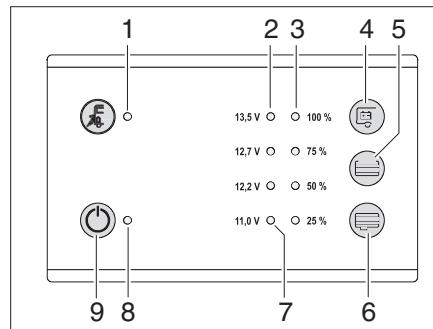

Fig. 78 Panel LT 100
The level of the water tank can be read by using the sensor touchpad (Fig. 78,4).
- Touch sensor touchpad (Fig. 78,5): The level of the water tank is indicated in four levels by means of the LEDs (Fig. 78,3) (25% to 100%).
The level of the waste water tank can be read by using the sensor touchpad (Fig. 78,6).
- Touch the sensor touchpad (Fig. 78,6): The level of the waste water tank is indicated in four levels by means of the LEDs (Fig. 78,3) (25% to 100%).
Battery voltage With the sensor touchpad (Fig. 78,4) the battery voltage of the living area battery can be displayed.
The indicator LEDs (Fig. 78,2) display the battery voltage.
- Red warning indicator LED (Fig. 78,7) lights up: Battery voltage above 11.0 V
The red warning LED (Fig. 78,7) lights up as soon as the voltage of the living area battery falls below 11 V (measured under operation) and there is a risk of a total discharge.
The 12 V main switch (Fig. 78,9) switches the panel and the 12 V power supply of the living area on and off.
- Press the upper part of the rocker switch (Fig. 78,9) "On": The 12 V living area power supply is switched on. The indicator lamp (Fig. 78,8) lights up green.
- Press the lower part of the rocker switch (Fig. 78,9) "Off": The 12 V living area power supply is switched off. The indicator lamp (Fig. 78,8) goes out.
The 12 V indicator lamp (Fig. 78,8) illuminates whenever the 12 V main switch (Fig. 78,9) is switched on.
The yellow 230 V indicator lamp (Fig. 78,1) lights up whenever line voltage is available at the transformer/rectifier input.